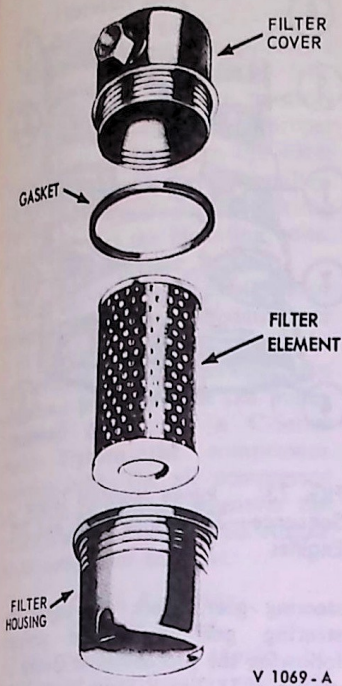

FIG. 68 Typical In-Line Fuel Filter—500-800 Series with Electric Fuel Pump
1. Unscrew the lower section from the upper section and remove the filter element and gasket (Fig. 68). Discard the element and gasket.